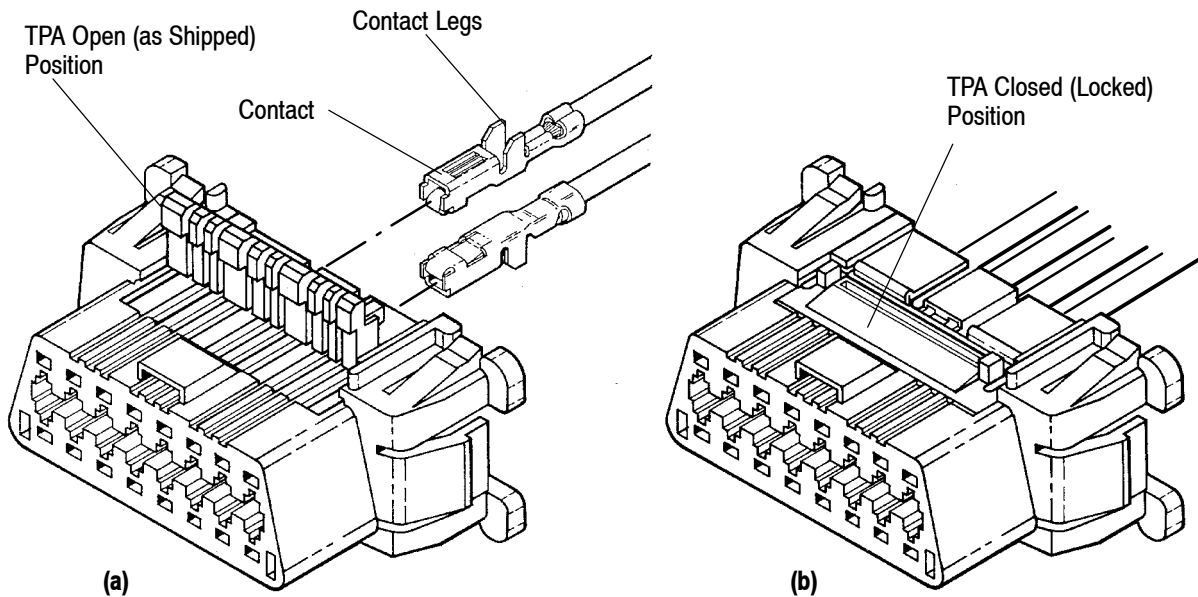

Figure 4
Check to be sure the connector is in the open, or as-shipped, position, see Figure 4 (a). Then, proceed as follows:
4. After all required contacts have been inserted, close and lock the Terminal Position Assurance (TPA) by pushing it forward until it snaps in place. See Figure 4 (b).